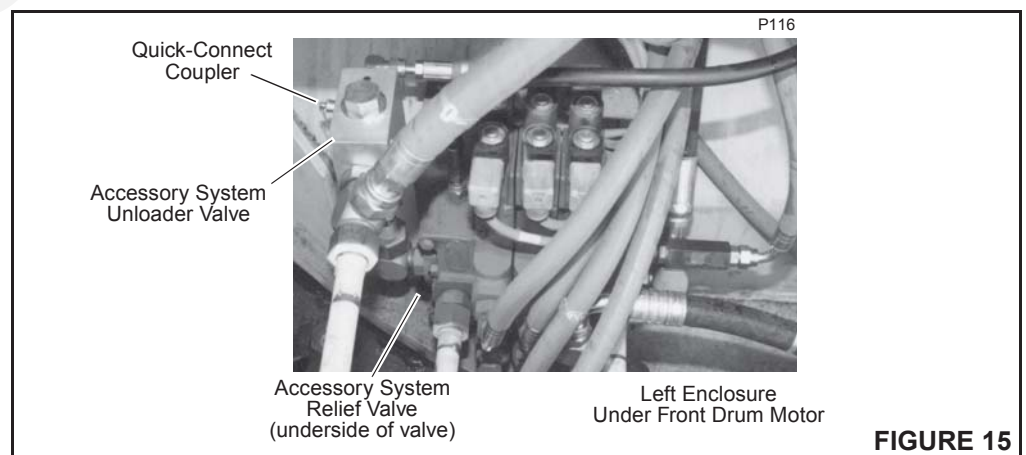

FIGURE 15
2. Connect 0 – 5000 psi (0 – 344.5 bar) hydraulic pressure gauge to quick-connect coupler at accessory system unloader valve (Figure 15).
5. Fully extend or retract mast assist cylinders. Check pressure on gauge at accessory system unloader valve (Figure 15). Pressure should read between 3000 – 3200 psi (206.7 – 220.5 bar).